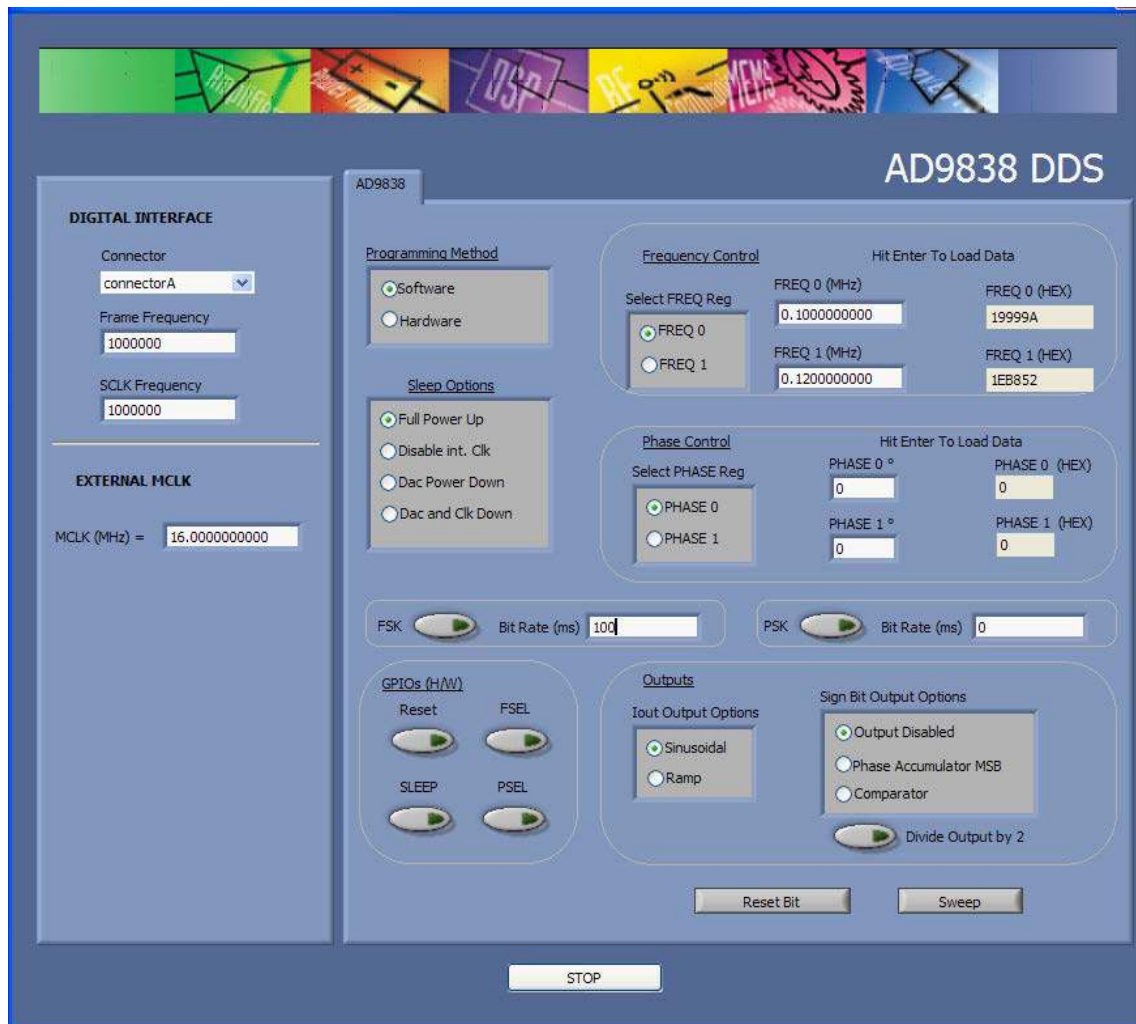

Figure 4. AD9838 DDS Evaluation Software
3. Ensure that all links are in the correct positions (see Table 1). The main window of the AD9838DBZ evaluation software then opens, as shown in Figure 4.